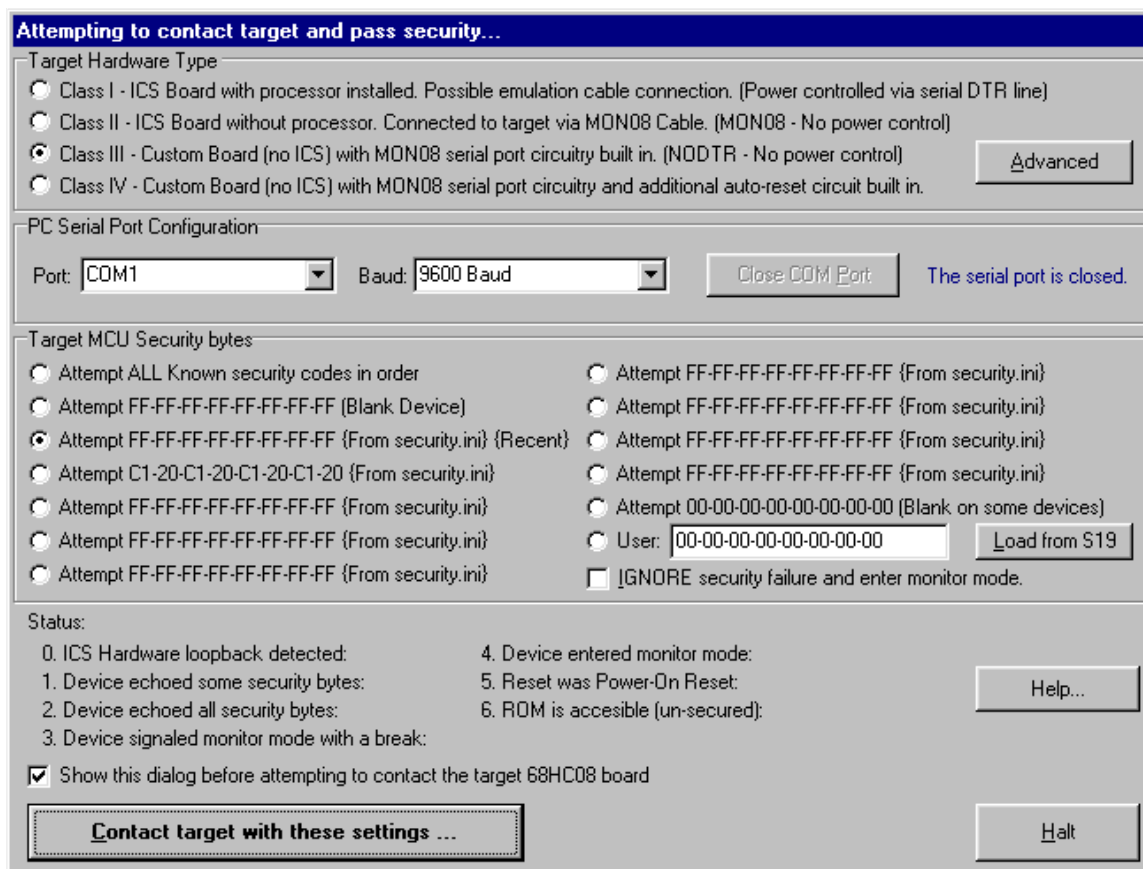

Figure 8. P&E's Target and Security Window
- g. From "Target Hardware Type," select "Class III" (see Figure 8).